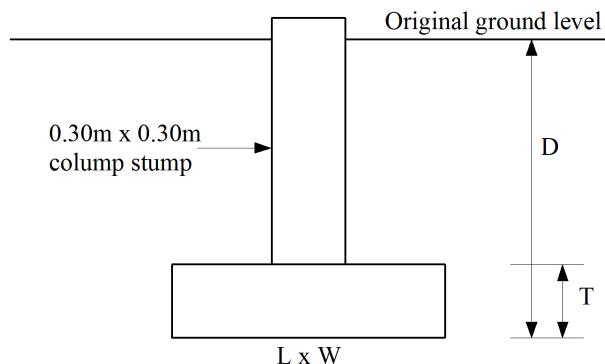

Figure B2(c) / Rajah B2(c)
- (c) Based on the information given in Table B2(c) and Figure B2(c), calculate the construction cost for excavation work for pad foundation done manually.